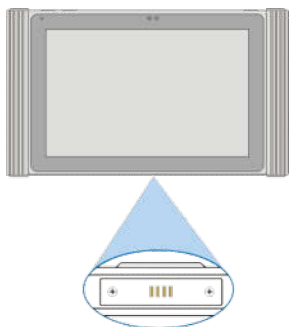
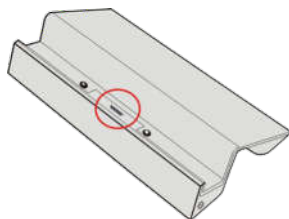

Fig. 3-1
Fig. 3-2
- Locate the charging slot on the bottom of X-431 EURO TAB tablet and the docking station. See Fig. 3-1 & Fig. 3-2.